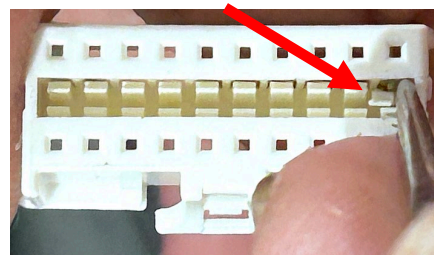

Figure 5
8. Use a small screwdriver or object to press down on the lock tab, towards the center of the connector and gently pull on the red and yellow probe wires to remove them from the connector disconnected in step 6 (see Figure 5).